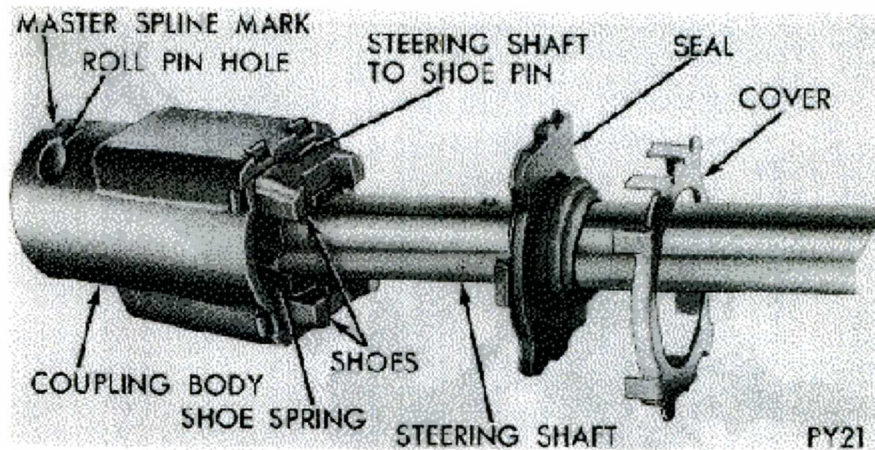

FIGURE 2: STEERING COUPLING PARTIALLY ASSEMBLED
6. Squeeze shoes together, compressing spring and push assembly into coupling body. (figure 2)